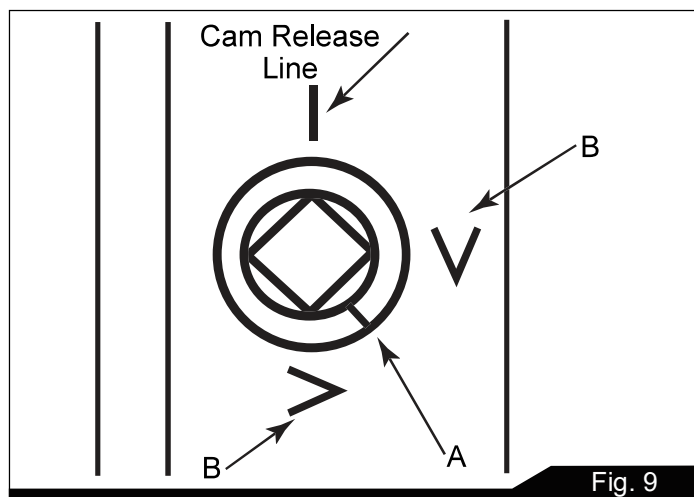

Fig. 9
1. Support the chuck while turning six camlocks 1/4-turn counterclockwise, using the chuck wrench from the tool box. See Figure 9.
5. Lift the chuck up to the spindle nose and press onto the spindle. Tighten in place by turning the camlocks 1/4 turn clockwise. The index mark (A, Figure 9) on the camlock should be between the two indicator arrows (B) when tight, as shown in Figure 9.
- If the index mark (A) is not between the two arrows, i.e. the cam turns beyond the indicator arrows, then remove the chuck and turn the camlock stud IN one full turn.